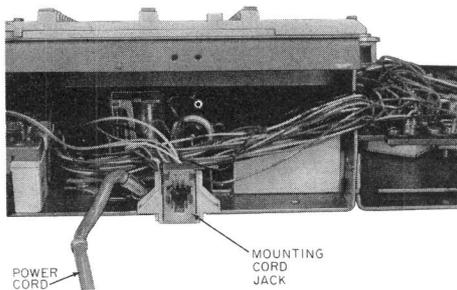

Fig. 7—870A2M Telephone Set, Partial View
- (1) Remove the housing (paragraph 3.21) and access the PSB terminals (paragraph 3.18).
- (2) Remove D6AD-87 mounting cord.
- (3) Install the 623P6 jack as shown in Fig. 7.
- (4) Connect the spade-tipped jack leads as follows:
- (a) (R) wire to TB-4
- (b) (G) wire to TB-8
- (c) (Y) wire to TB-2
- (d) (BK) wire to TB-1
- (e) Insulate and store (BL) and (W) conductors.
- (5) Connect (Y) lead of M2SL-87 cord to PSB-24 and the (BK) lead to PSB-25 and route cord through housing.
- (6) Connect the cord to the 95B1 power unit.
- (7) Reassemble the set.
- (8) Install a 625-type connecting block.